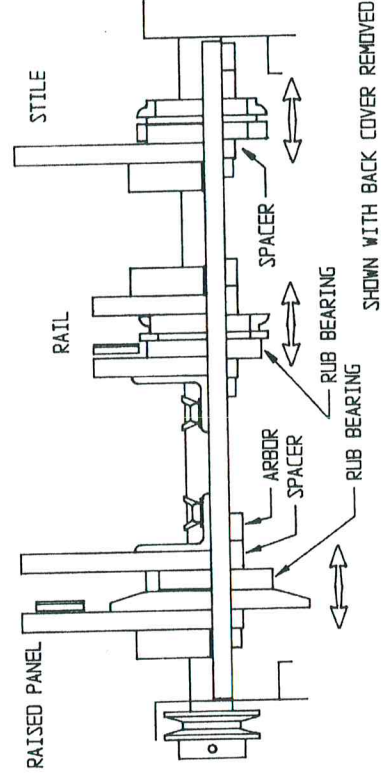

Fig. A-10
4. Loosen (but don't remove) the two wing nuts at the top of the belt drive guard. The belt drive guard is the large one on the right side of the machine. With the 7/16" wrench remove the (4) nuts that fasten the belt drive guard to the side of the machine and remove it.
8. Slide the raised panel cutterhead on the shaft first, with the shoulder of the arbor towards the drive pulley (see fig. A-10).
10. Slide the stile (or cope) cutterhead on the shaft third, with the shoulder of the arbor towards the drive pulley (see fig. A-10).
3. Install the 3/4" long spacer, then start the arbor nut by hand (see fig. A-10).
1. First install one of the 1/2" long spacers on an arbor, so that it is against the shoulder of the arbor (see fig. A-10).
4. The third cutter to be installed is the stile (or cope) detail cutter (cutter no. 6 in fig. A-6). Install the stile (or cope) detail cutter on the arbor, with the radius next to the groover (see fig. A-10).
3. Using the Allen wrench loosen the set screw in the cutter arbor and slide the cutter on the shaft to the desired position (see fig A-10).
3. Using the Allen wrench, loosen the set screw in the rail cutter arbor and slide the cutter on the shaft to the desired place (see fig A-10).
3. Using the Allen wrench, loosen the set screw in the stile cutter arbor and slide the cutter on the shaft to the desired place (see fig A-10).